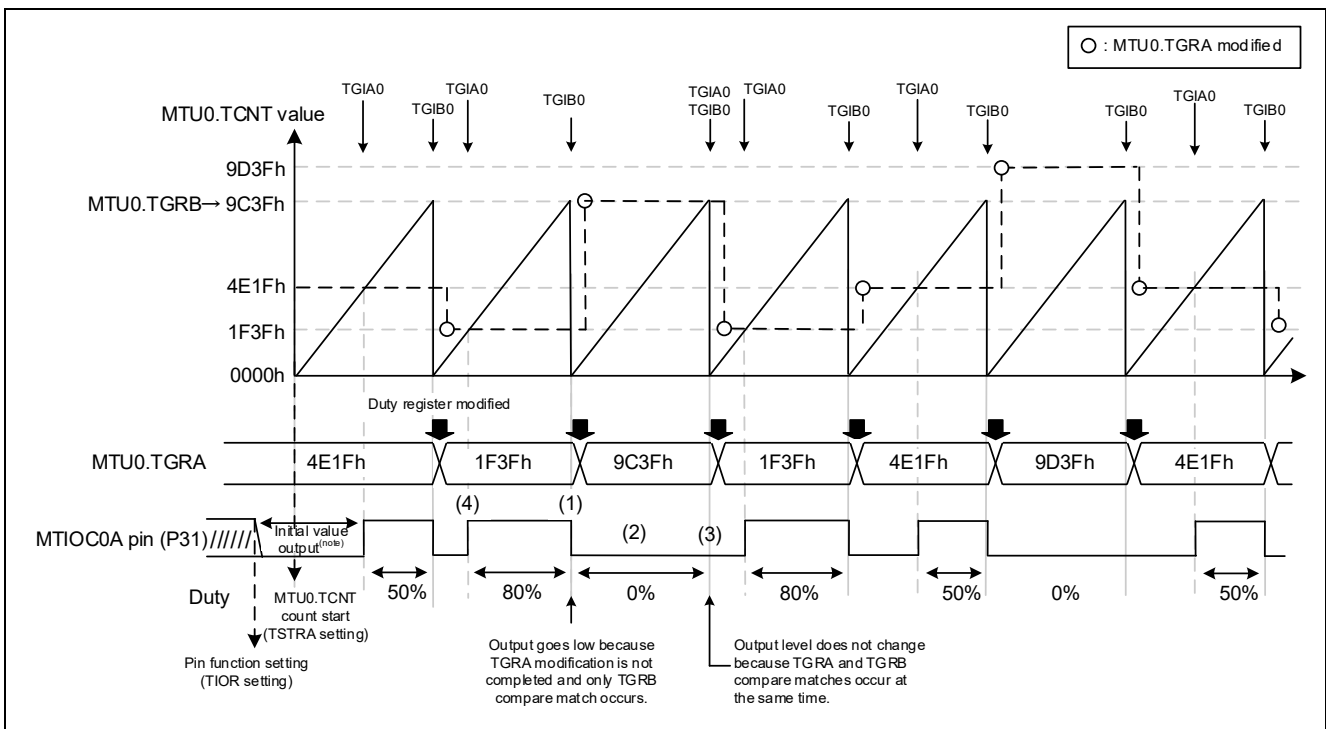
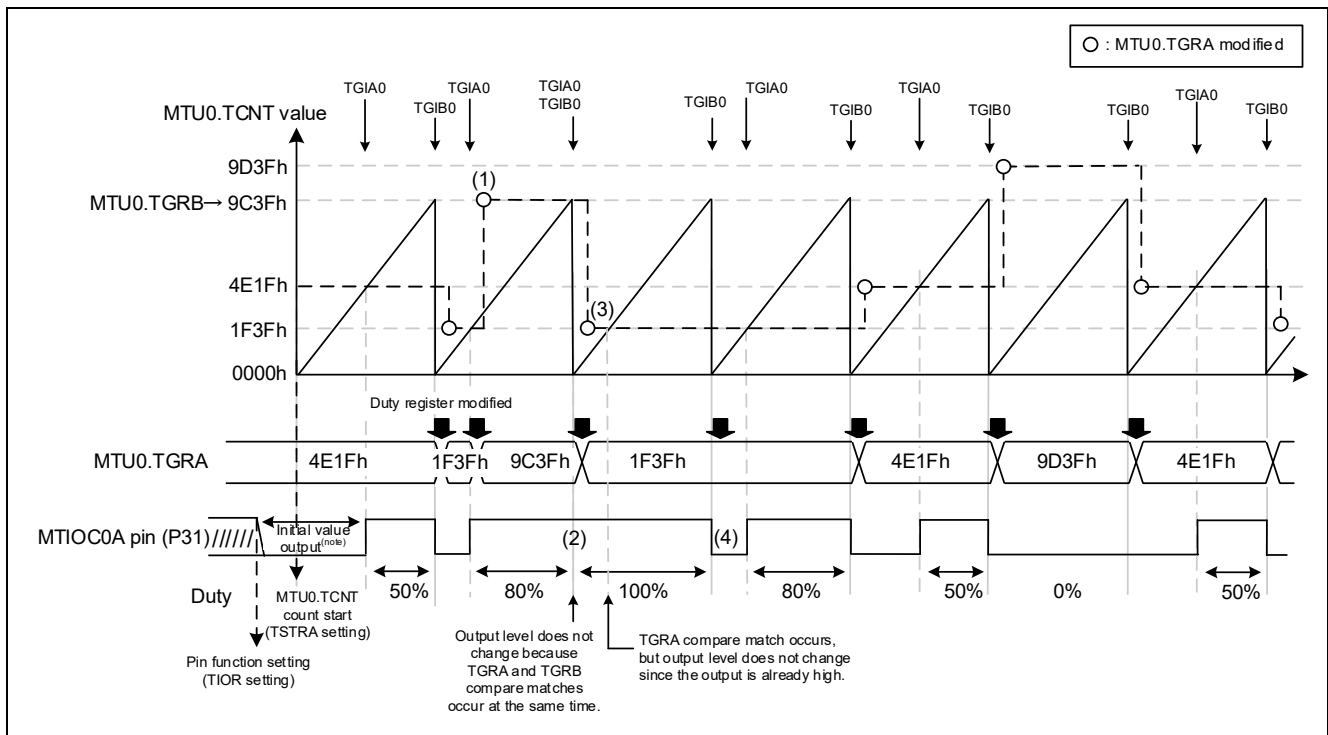

Figure 3.82 PWM Output with Duty Cycles 0% to 100% (without buffer)
Figure 3.83 PWM Output with Duty Cycles 0% to 100% (without buffer)
The TGRA value is changed when TGIB0 occurs, in the timing shown in (1) in Figure 3.82, and output is changed to low because only the TGRB compare match occurs. As a result, even though 100% is desired the output, 0% is output ((2) in Figure 3.82). Also, because output does not change when the TGRA and TGRB compare matches occur at the same time, low is retained ((3) in Figure 3.82).
Figure 3.83 shows how to modify the TGRA at the timing indicated by (4) to avoid the conditions of (2) in Figure 3.82.
The TGRA value is modified when TGI A0 occurs ((1) in Figure 3.83).
When the TGRA value is the same as the TGRB value, both compare matches occur at the same time. Because output does not change when two compare matches occur at the same time, high is retained and 100% duty cycle is output ((2) in Figure 3.83).
The TGRA is changed to 80% when TGI B0 occurs ((3) Figure 3.83).
The pin outputs low when the 100% duty cycle TGRB compare match occurs ((4) Figure 3.83). At this time, the TGRA remains at 80% again.
When switching from duty cycle 100% to 80%, two compare matches will occur, including the TGRA compare match that occurred at the same time as the TGRB compare match ((3) in Figure 3.83).